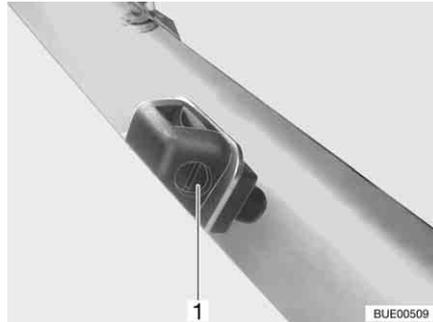

Fig. 42 Washer nozzle
- Use a suitable screwdriver to turn the adjusting screw (Fig. 42,1) until you reach the desired position.